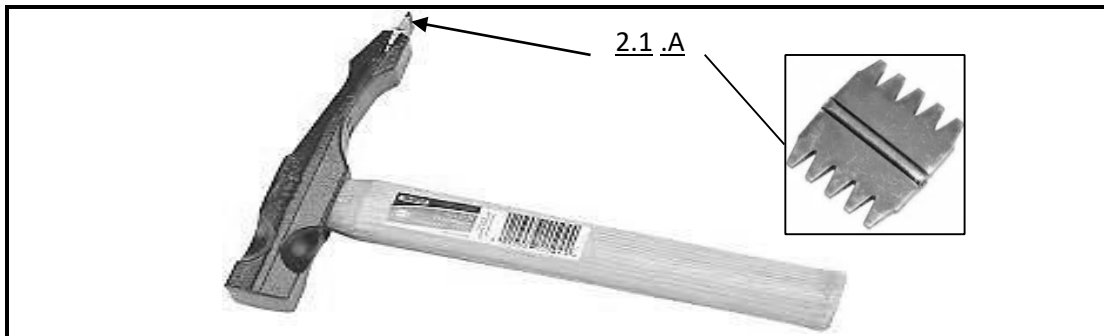

FIGURE 2.1
2.1 Answer the following questions with regard to the hand tool in **FIGURE 2.1**.